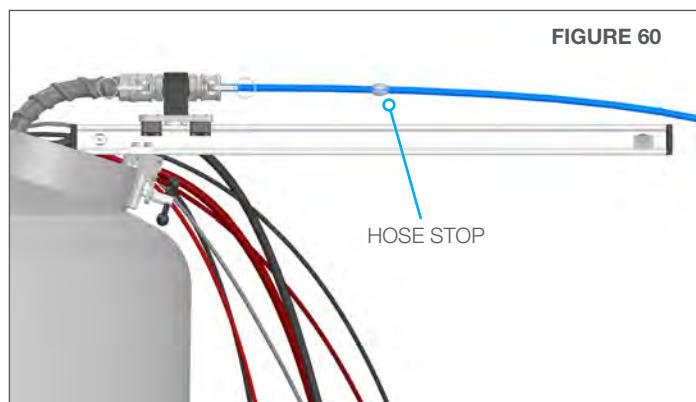

FIGURE 60
- Loosely install the Hose Stop on the hose. **(Figure 60)**
- Move the Hose Stop into the approximate position shown in **(Figure 60)**, and tighten it onto the Hose.